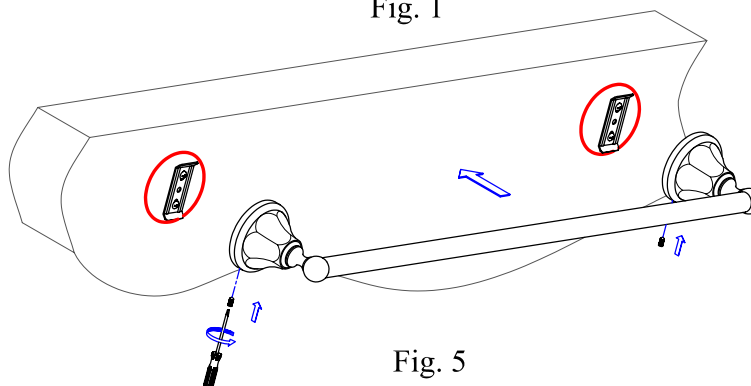

Fig. 5
- Step 7. Place the unit, with the small hole of cover plate underneath, over the mounting plate by tightening slotted set screw with flathead screwdriver until the base is tightly fixed. (Fig.5)